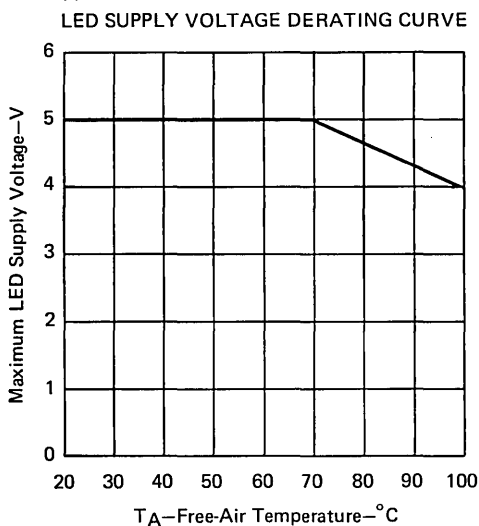

FIGURE 1
2. For operation above 70°C free-air temperature, refer to LED Supply Voltage Derating Curve, Figure 1.